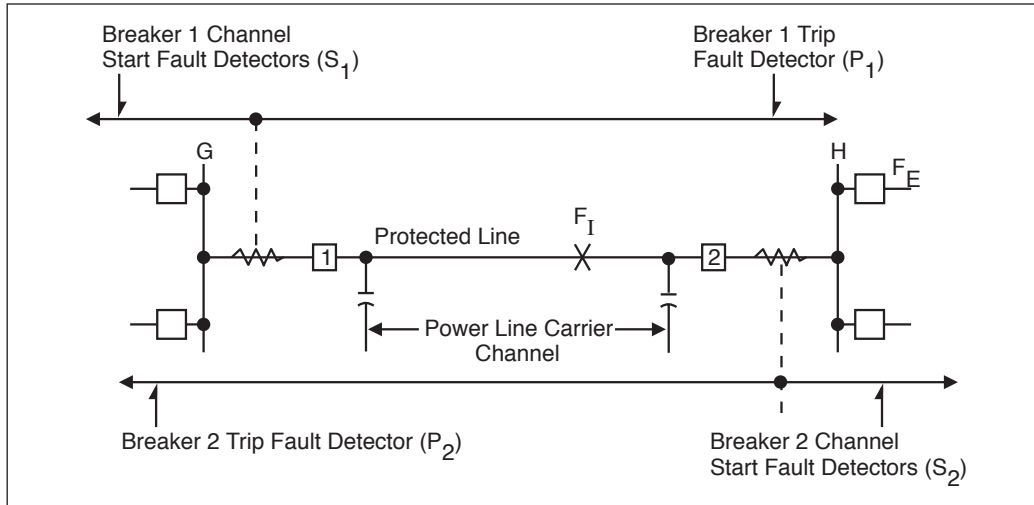
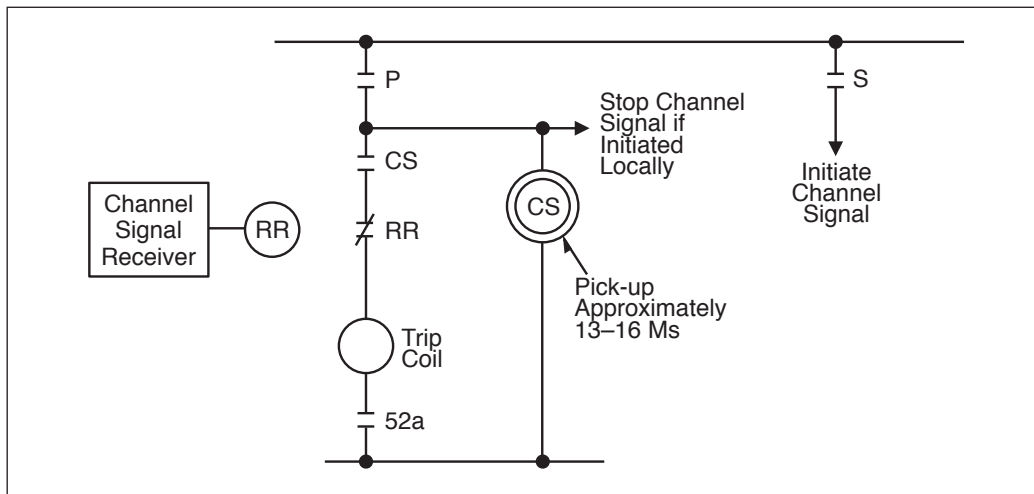
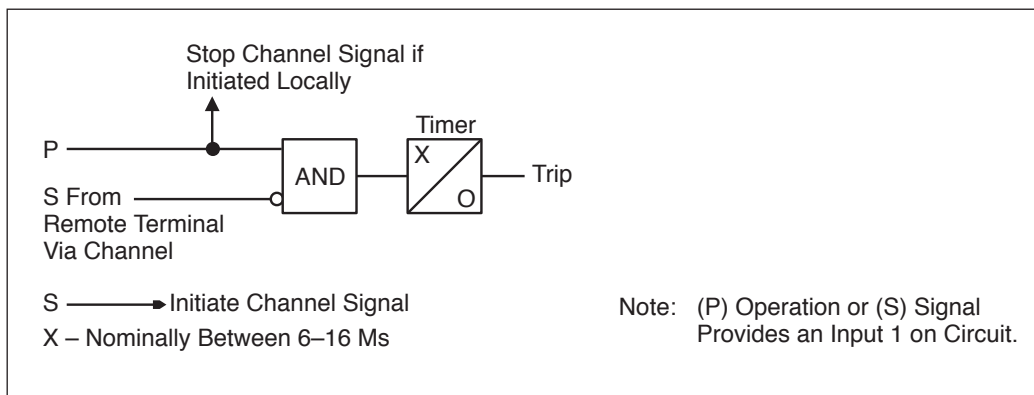

Figure 3-25a – Basic Elements for directional-comparison blocking systems.
Figure 3-25b – Contact Logic (per Terminal).
Figure 3-25c – Solid State Logic (per Terminal).
The basic elements for directional-comparison blocking systems are shown in Figure 3-25a and Figure 3-25b. At each terminal, the phase and ground trip units (P) must be directional and set to overreach the remote terminal; that is, they must be set to operate for all internal faults. Nominal settings of the distance units are 120 to 150 percent of the line. The start units (S) must reach farther, or be set more sensitively, than the remote trip units. Thus S1 must be set more sensitively than P2 or reach farther behind bus G. Likewise, S2 must be set more sensitively than P1 or reach farther behind bus H. In any case, the S and P relays should be similar in type. If the trip unit (P) is a directional overcurrent ground relay, the start (S) ground relay should be a similar non-directional overcurrent unit. The same principle applies for the phase relays.
Operation of the directional-comparison scheme (shown in Figure 3-25a and Figure 3-25b) is internal faults. Subscript 1 indicates relays at station G for breaker 1; subscript 2, relays at station H for breaker 2. (Figure 3-25c shows a solid-state logic version of Figure 3-25b.)